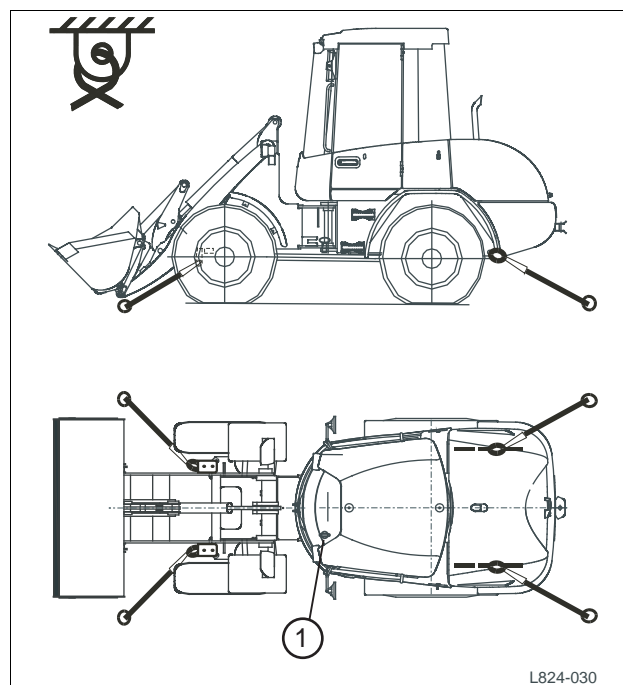

Fig. 29 Lashing for transport
- Attach the machine at the points illustrated (Fig. 29) in the correct manner.